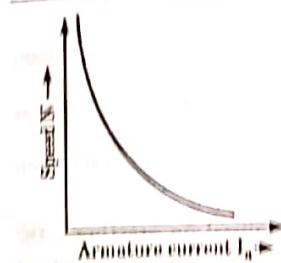

Fig. 3.2.1. Speed-armature current characteristic of a DC series motor.
5. Thus, for the series motor, the speed is inversely proportional to the armature (load) current. The speed-load characteristic hyperbola is shown in Fig. 3.2.1.